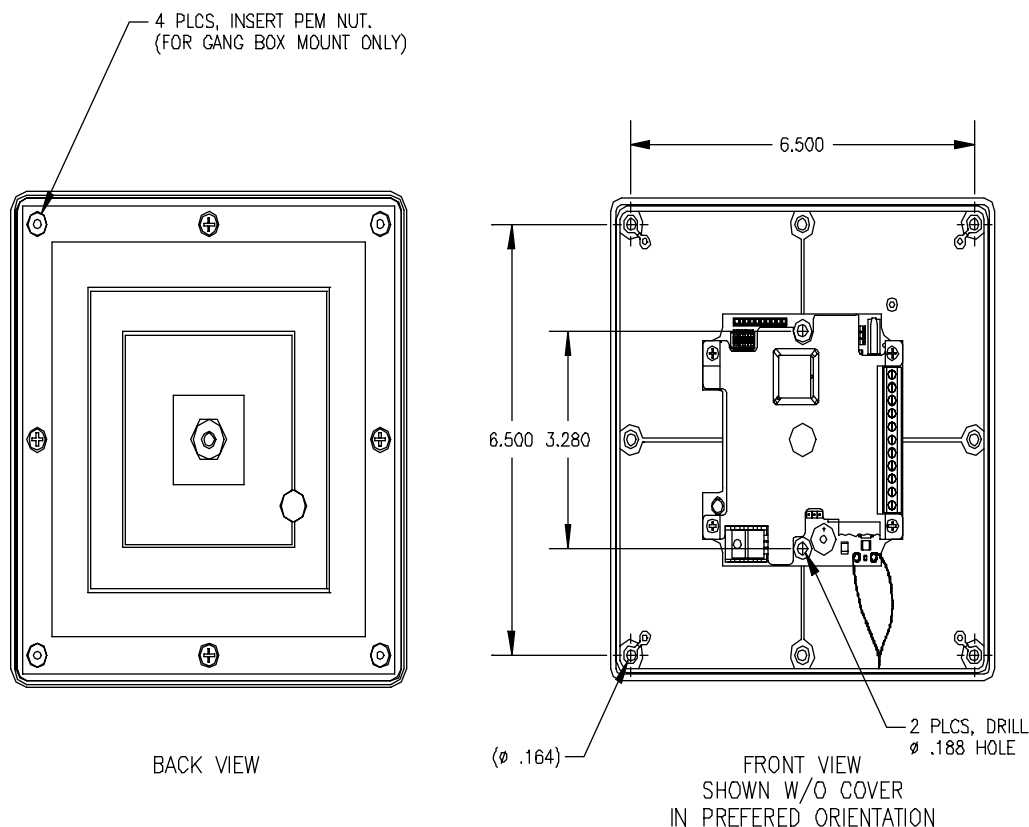

FIGURE 5
- Drill a  $\varnothing .188$  hole in the 2 locations shown in figure 5.